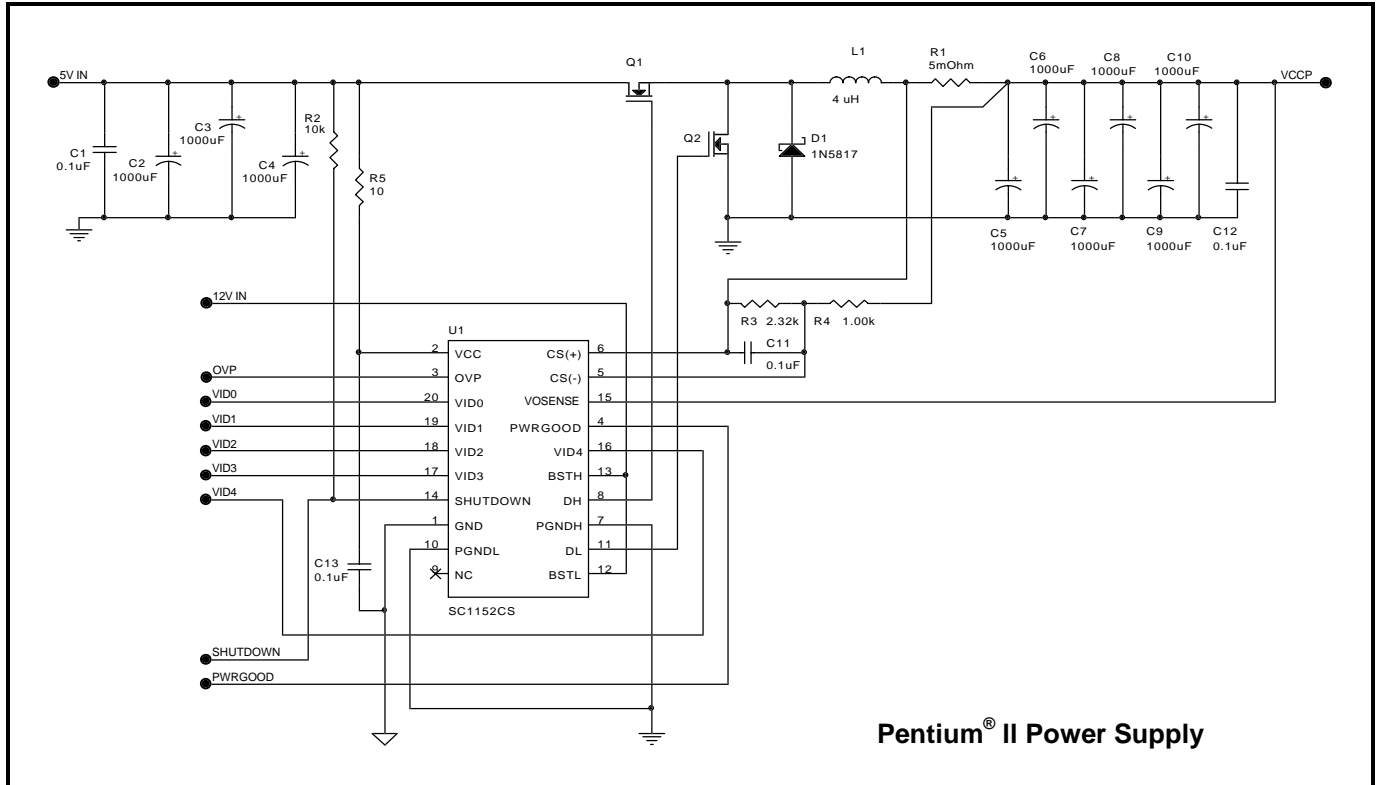

Figure 1.
(1) Specification refers to application circuit (Figure 1.).
SC1152 Efficiency in Application Circuit (Figure 1).
SC1152 Regulation in Application Circuit (Figure 1).